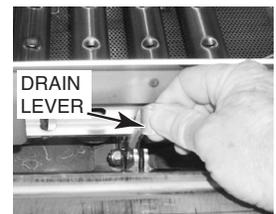

Fig. 30
4. Open drain(s) by pulling drain lever(s) up (Fig. 30).